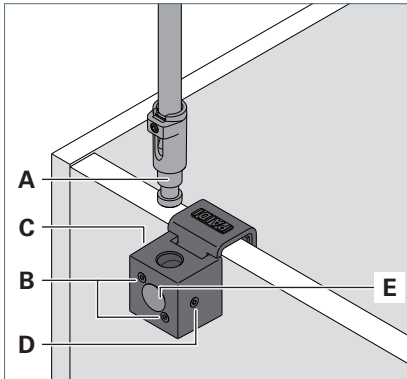

Fig. 2: Mounting the luminaire to a vertical mounting surface.
- ▶ Fix the table clamp to the mounting surface using the screws **B**, see Fig. 2.